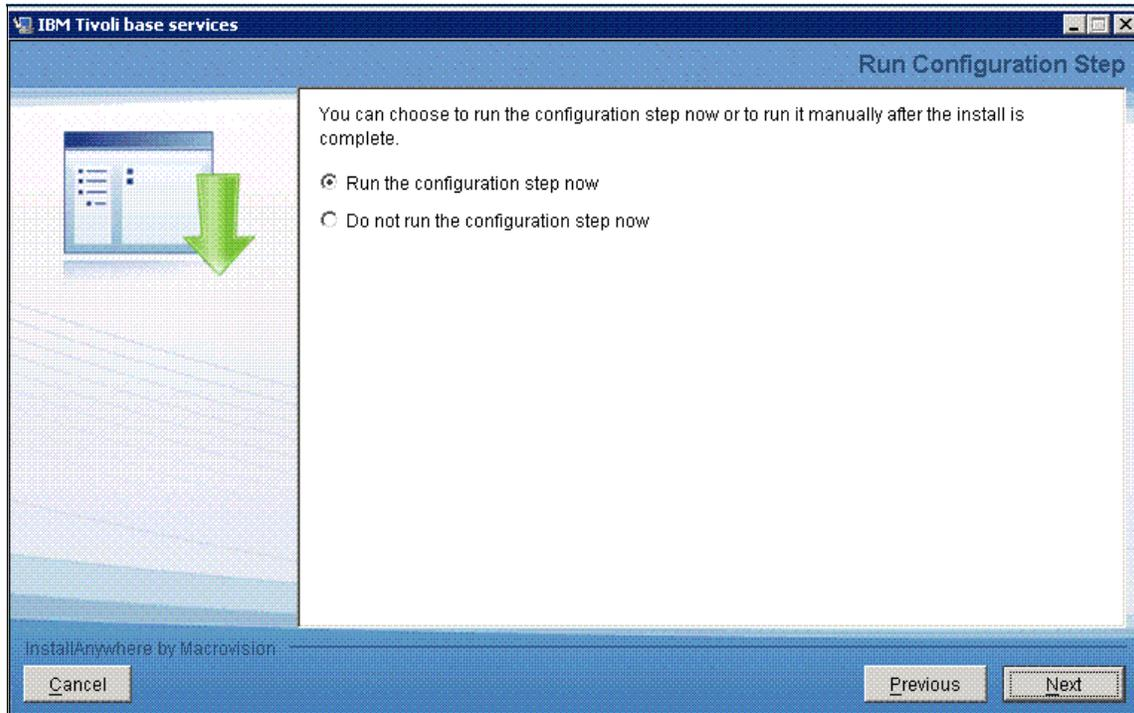

Figure 6-5 Run Configuration Step window
9. After entering the information in these fields, click **Next** to view the run configuration step window. Refer to Figure 6-5 on page 195.